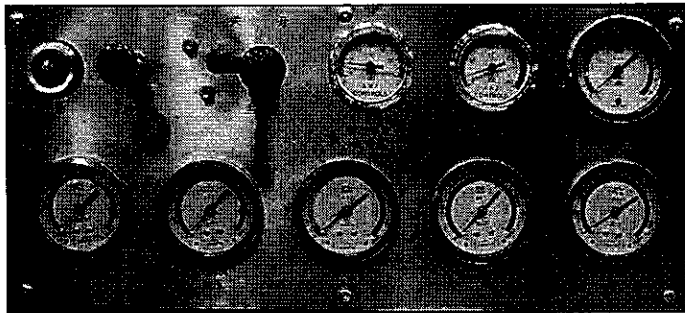

Figure 4.1.1 Air pressure isolation and indication in operators compartment
4. Fit a Danger tag to the ON/OFF toggle valve. (Figure 4.1.1)